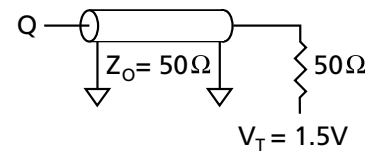

Figure 1
8. Test conditions as specified with the output loading shown in Figure 1 unless otherwise noted.
Output load .....	See Figures 1 and 2